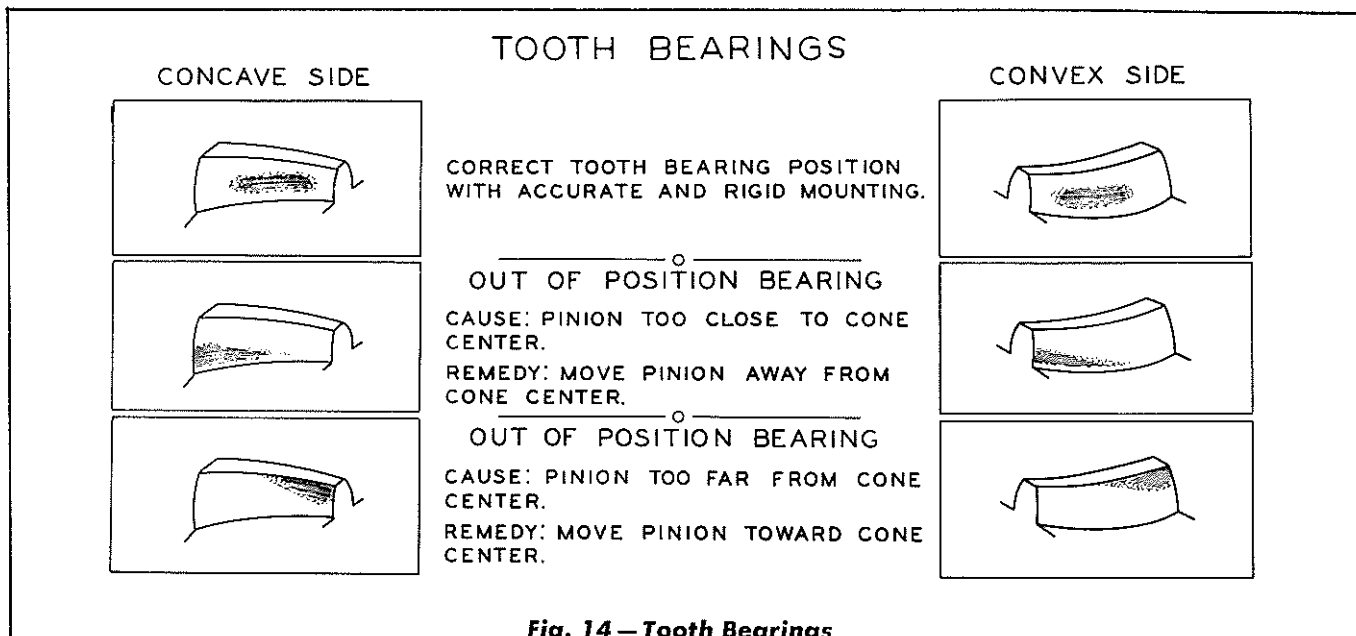

Fig. 14 — Tooth Bearings
- i. Install the shifting lever extension on the lower shift lever. Install the drain plug in the transmission case. Inspect the inside of the transmission thoroughly for foreign objects and to determine if all capscrews inside the transmission have been securely tightened and locked. Using a small pry bar, or similar tool, move each shifting shaft into its various detent positions, and check to see if the shifting forks are properly located on the shafts so that the shifting collars are in proper engagement with their corresponding gears. Install transmission cover plate. Recheck the bevel pinion depth setting by referring to Fig. 14.
IMPORTANT: After the backlash has been adjusted, the tooth bearing **MUST** be checked. The tooth bearing can be determined by painting the bevel gear teeth with a marking compound, or bluing, then rotate the gear and the tooth bearing will show plainly. Refer to Fig. 14 showing the correct and incorrect tooth bearings.